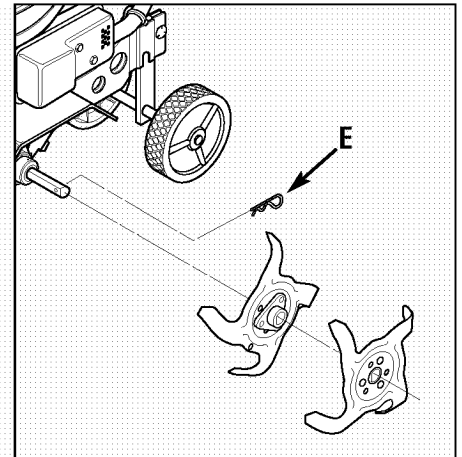

Figure 3: Remove hitch pins and tines from both sides of the tine shaft. Keep left and right-side tines separated and marked for easier reinstallation.
- 3.** Remove the hitch pin on each tine shaft (E, Figures 3 and 4).
- 4.** It is important for proper tilling performance that the tine sections be later reinstalled in their original patterns. Mark the position of each tine section (Left-Outer, Left-Inner, etc.) before removing them. Refer to Figures 3 and 9 for tine pattern information. See also *Tine Removal and Installation* in Section 5.